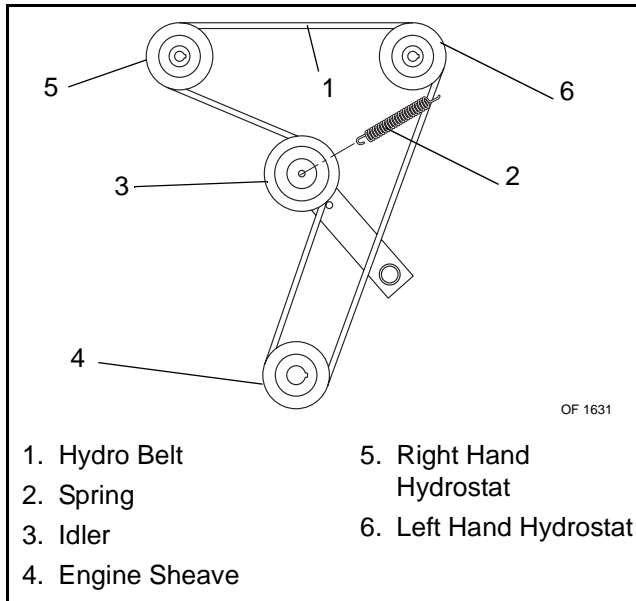

Figure 11
3. Remove old hydro pump belt by rolling belt off right hand hydrostat sheave first. (Figure 11)